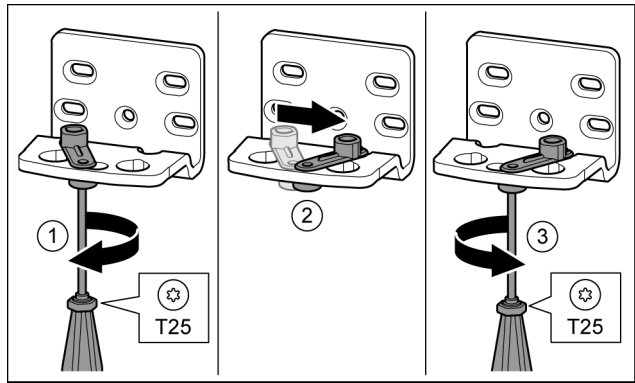

Fig. 30 *
- ▶ Loosen the screw using a T25 screwdriver. *Fig. 30 (1) **
- ▶ Lift the door closure aid and turn it 90° to the right in the hole. *Fig. 30 (2) **
- ▶ Tighten the screw using a T25 screwdriver. *Fig. 30 (3) **